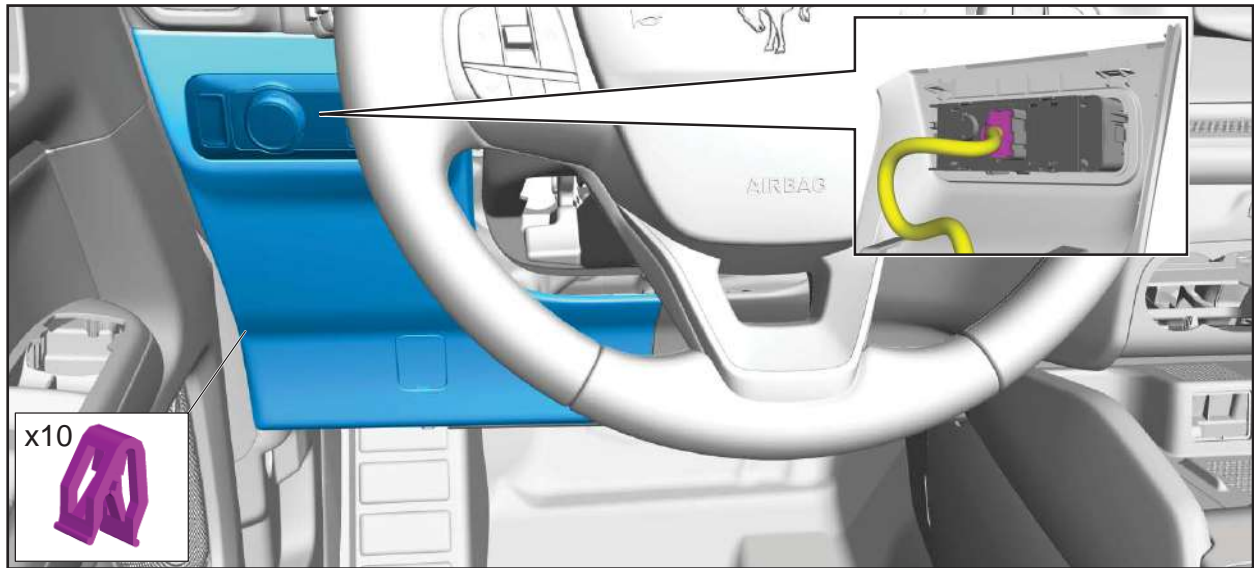

FIGURE 39
39. Detach the clips and Remove the LH side of the steering column cover. See Figure 39.